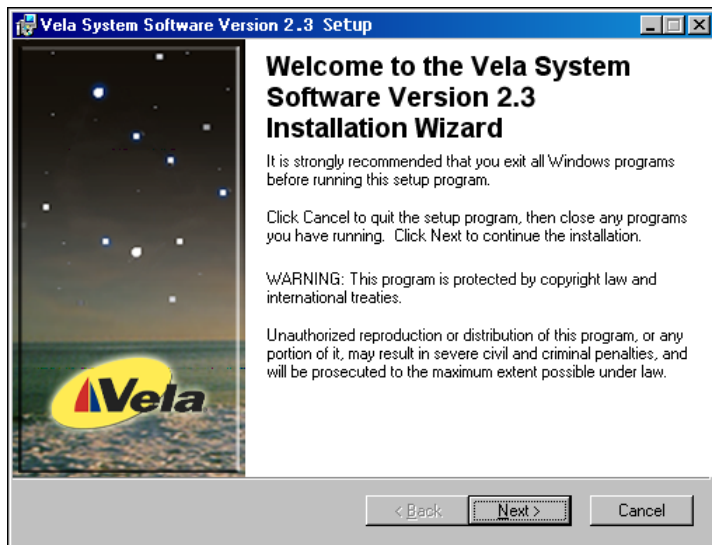

Figure 1-3. Installation Wizard Welcome Screen
4. Exit the Vela System Software Setup screen (Figure 1-3) if it appears.
2. Next, an Installation Wizard welcome screen (Figure 1-3) will appear. For the most part, all the screens are self-explanatory and guide you from one install point to the next. Click Next.